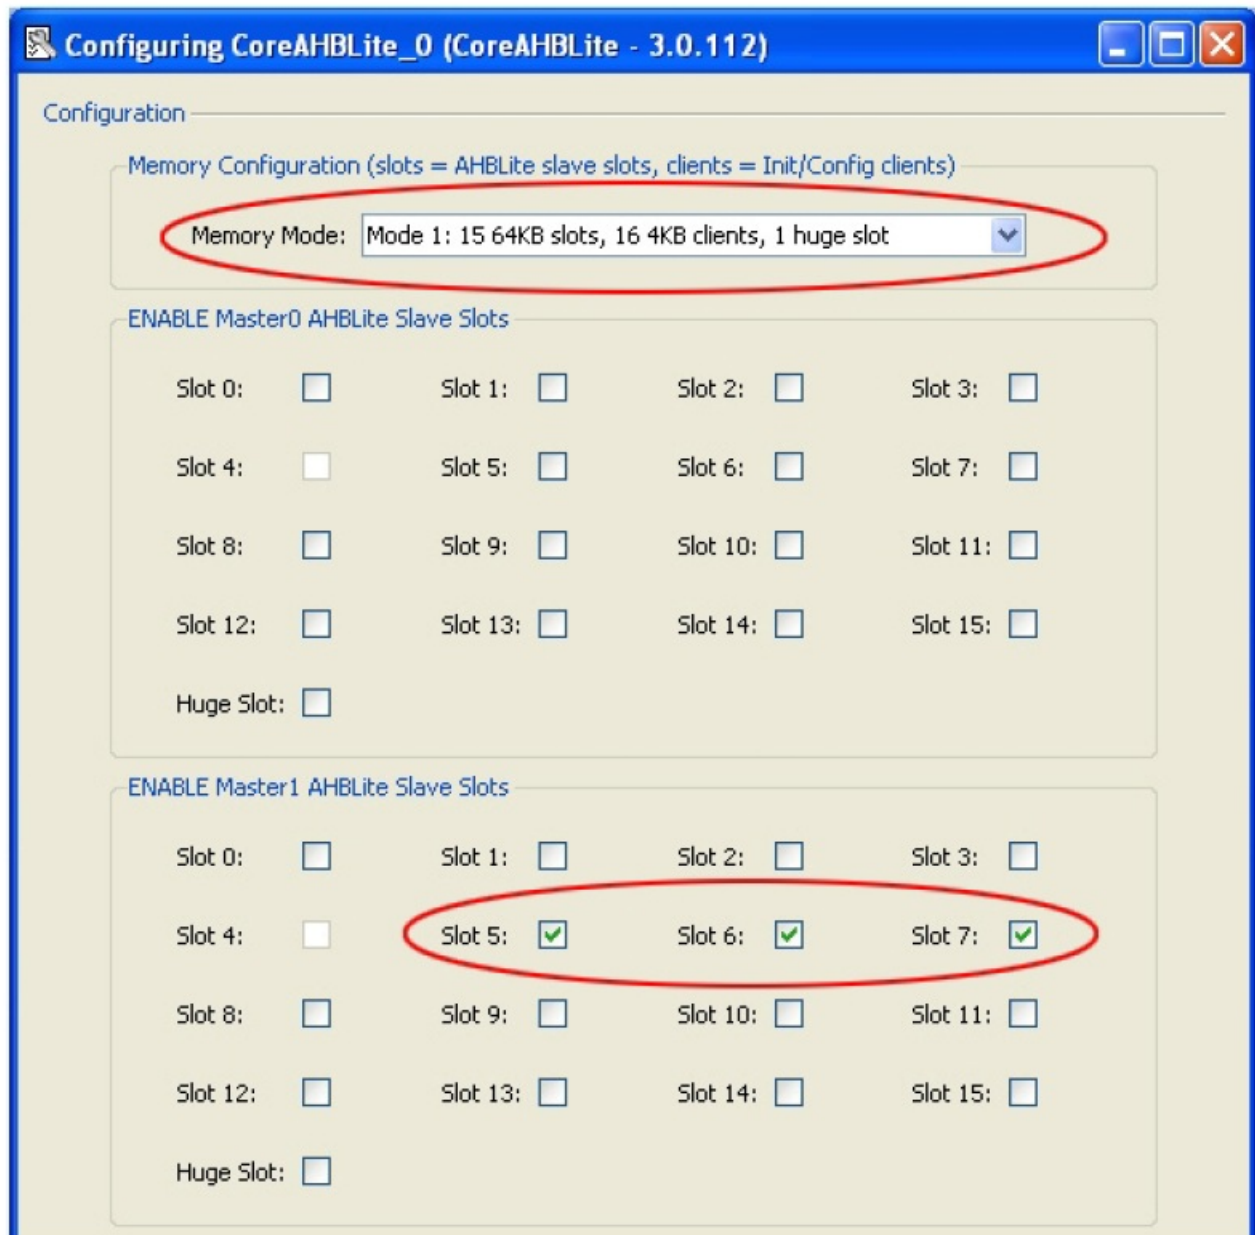

Figure 1-4 · Configuring AHBLite: Memory Mode and Slave Slots
The fabric AMBA subsystem is created into a regular SmartDesign component, and then the MSS component is instantiated into that component (as shown in Figure 1-4).
- Select the Memory Mode 1 as shown in Figure 1-4. This mode provides 15 64KB slots that can be used to connect 15 AHBLite slaves. You may ignore the 16 4KB clients slots (mapped into Slot 4) and the huge slot as